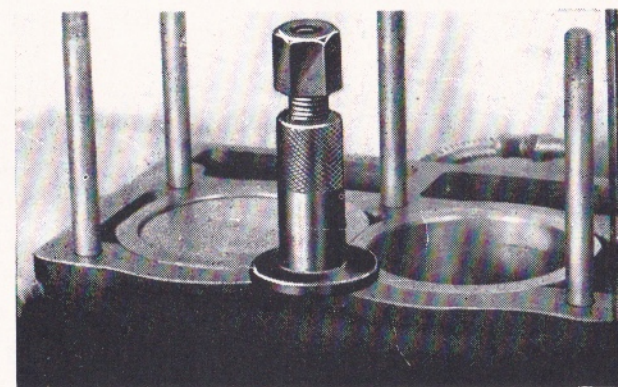

Fig. 14
1. The procedure of turning the crankshaft in order that the compression will " break " the seal of the cylinder head should not be practised with this design of engine. Once the cylinder head has been removed it is important that the crankshaft is not rotated unless the cylinder sleeves are firmly clamped down against their seatings. This can be accomplished by using two tubes and washers fitted over the cylinder head studs and each secured with a cylinder head nut Fig. 14. If this precaution is not observed the sleeves may rise with consequent risk of water leaking into the crankcase after assembly. On removal of the head and withdrawal of the push rods, the passage ways in the block leading to the camshaft and thence to the crankcase and sump must be sealed off with a clean rag or masking tape. The same applies to the rocker shaft oilway, both in the head and the block to prevent the entry of carbon particles which could do serious harm to the engine.